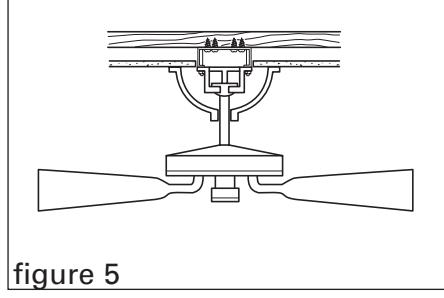

figure 5
3. Mount fan bracket to the electrical box using the two 10-24 x 1" bolts provided and connect wires according to fan or fixture manufacturer's instructions (figure 5).